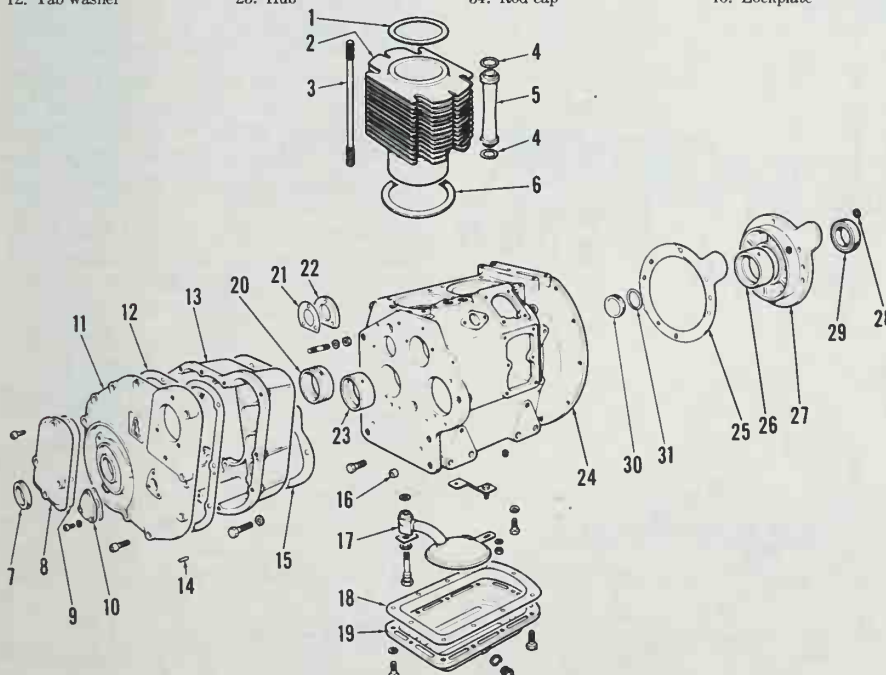

Fig. L3-22—Exploded view of typical crankcase assembly.
Piston height in cylinder is adjusted using shim gaskets (6—Fig. L3-22). With piston at top dead center, piston crown should be 0.0-0.1 mm below top of cylinder. Install shims (6) to obtain desired piston height.
R&R AND OVERHAUL. To remove crankshaft, remove pistons and timing gear cover as previously outlined. Remove idler gear, oil pump gear and crankshaft gear. Remove oil pump. Unscrew nuts securing rear bearing support (27-Fig. L3-22) then unscrew cap-screws securing center bearing support (41-Fig. L3-21). Models 833 and L40 are equipped with two center supports (41) while Models 834 and L54 have three center supports. Carefully with-
Main bearing cap (43) has a serrated parting face. Install cap in support so reference numbers on cap and support are on same side. Tighten main bearing cap screws to 49 N·m. Tighten center main bearing support screws to 49 N·m and nuts securing rear main bearing support (27 - Fig. L3-22) to 39.2 N·m.